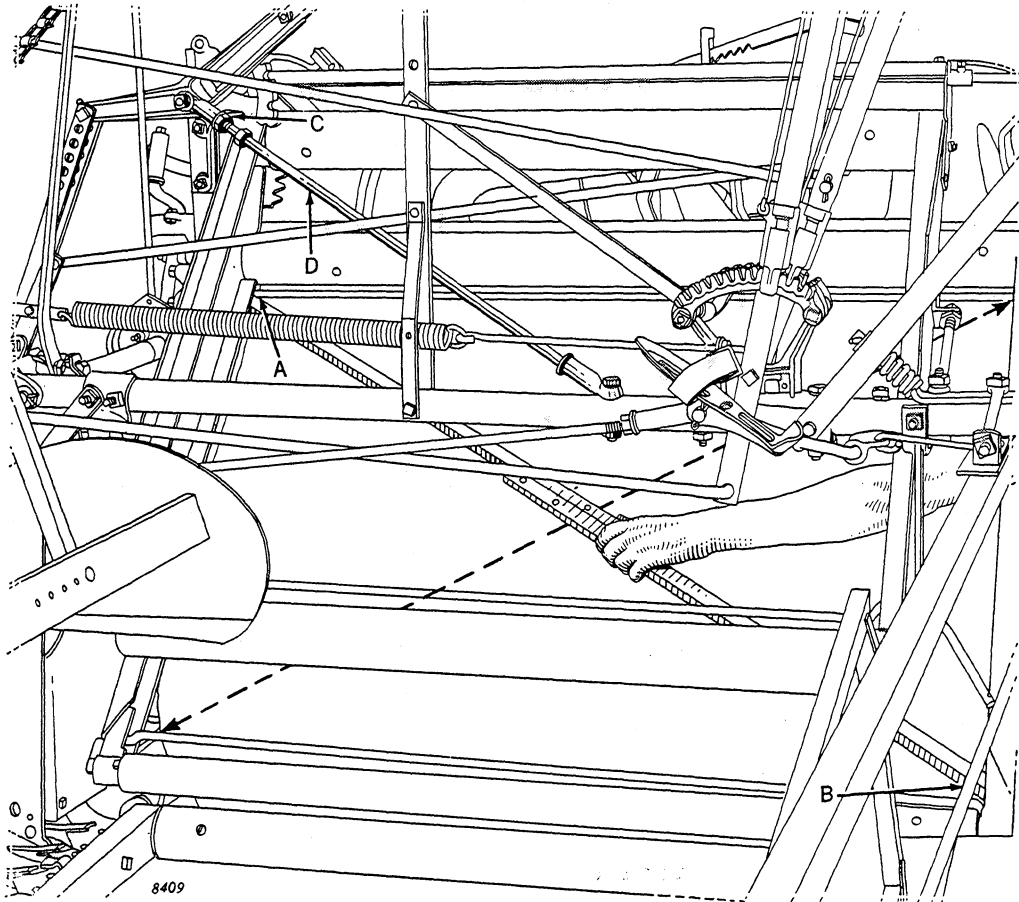

Figure 87
2. Use two reel arms or similar pieces for measuring and set them carefully in position "AB" as illustrated, Figure 87. Be sure canvas tightener lever rods are at the top of slotted holes in elevator rear side. Hold reel arms securely and place on dotted line, Figure 87. Be sure to place reel arms on canvas tightener levers in the same position as at "AB."
3. If the two measurements are not the same, make them so as follows: Loosen lock nut, "C," Figure 87, on adjusting brace "D," and turn brace in or out of socket, as necessary, to square lower elevator.